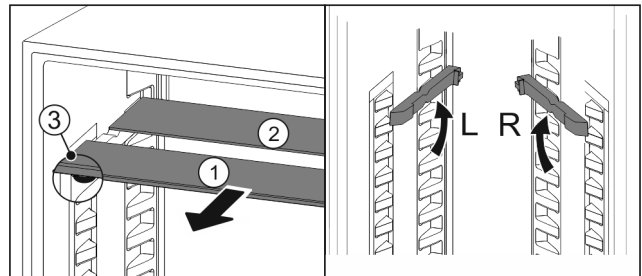

Fig. 92
- ▶ Pull the glass panels out Fig. 92 (1) from the front, one at a time.
- ▷ The glass panel Fig. 92 (1) with the trim strip is at the front.
- ▷ The stops Fig. 92 (3) point downward.